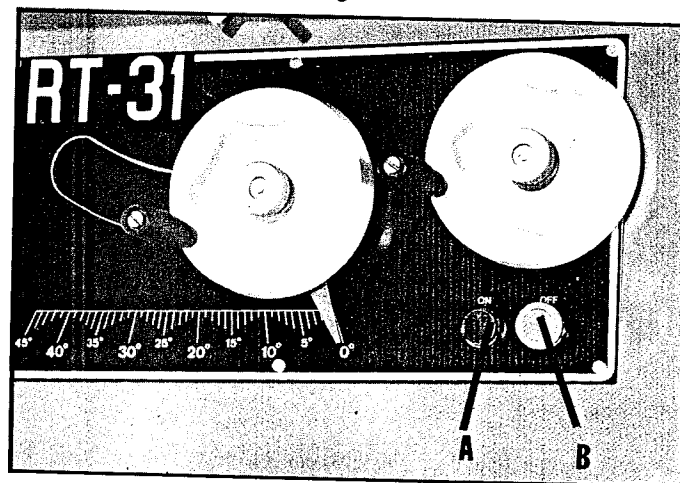

Fig. 63
The start/stop switch is located on the front of the machine for easy accessibility. To start the machine, press the smaller green button (A) Fig. 63. To stop the machine press the larger red stop button (B).